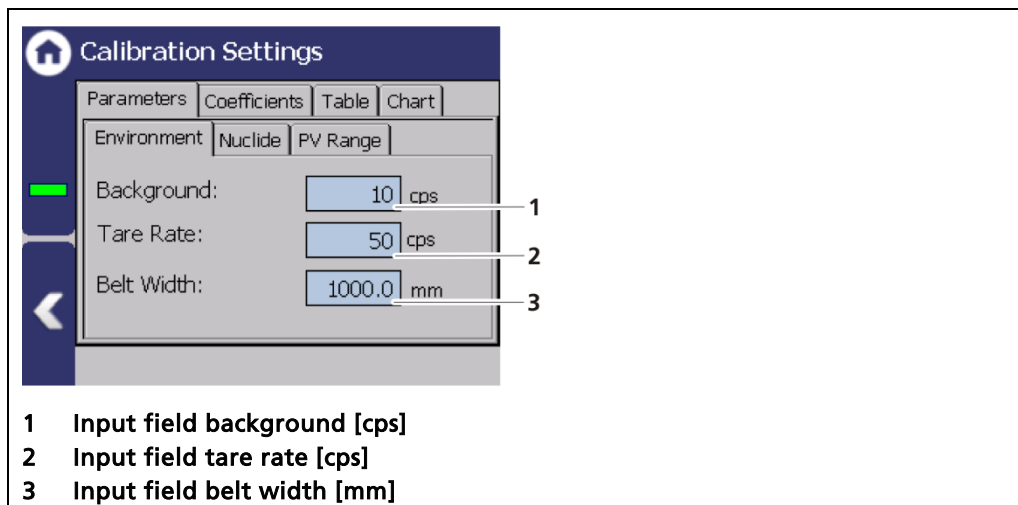

Fig. 82 Calibration settings: Environment
The background count rate (Fig. 82, item 1) is the natural background radiation of the detector and must be measured at least with rod detectors. Correct recording of the background radiation permits correct degradation compensation and thus has an effect on the long-term stability of the measured value.
The background count rate (Fig. 82, item 1) is the natural background radiation of the detector and must be measured at least with rod detectors. Correct recording of the background radiation permits correct degradation compensation and thus has an effect on the long-term stability.
1. Click on the text field "Background" (Fig. 82, item 1).